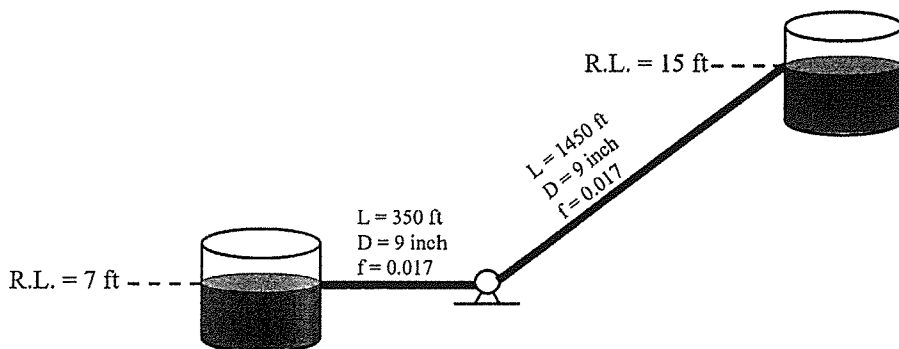
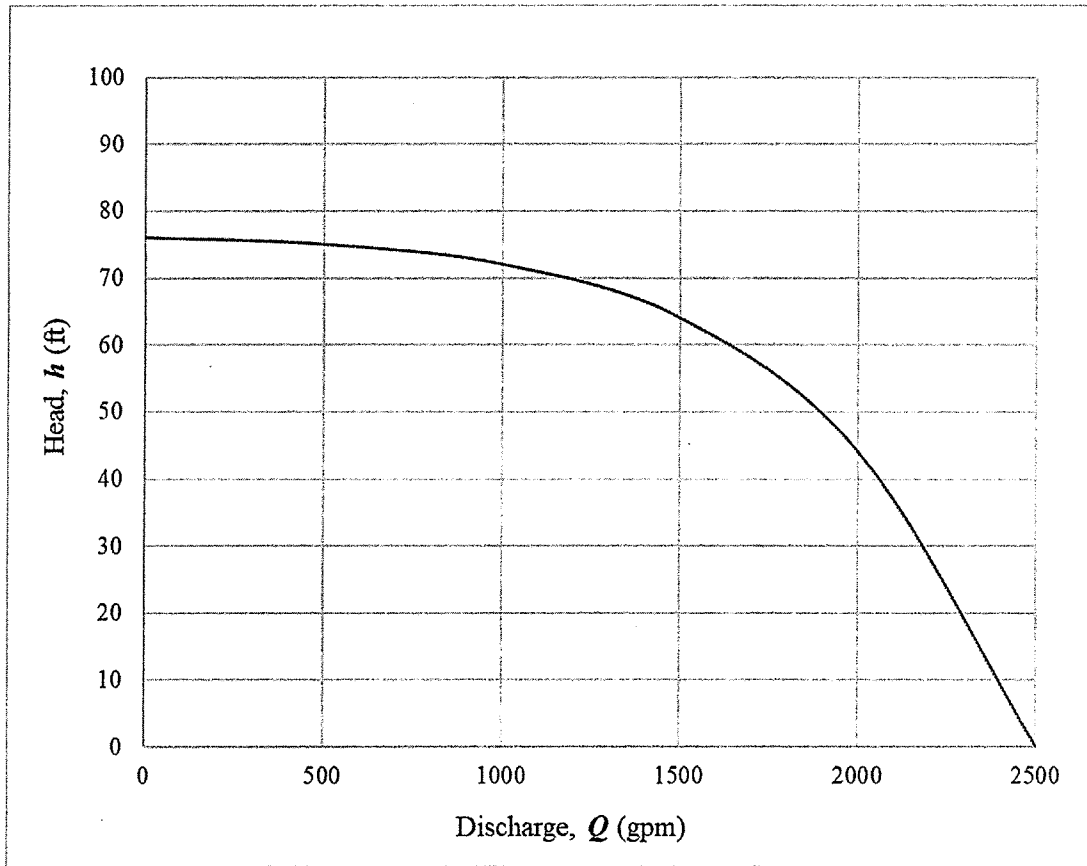

Figure 1. T&D system
Figure 3. Pump characteristics curve
b. A pump that has the characteristic curve shown in Figure 3 (attached in the supplementary documents) is to be installed as shown in Figure 1. Calculate the discharge of water in the system.